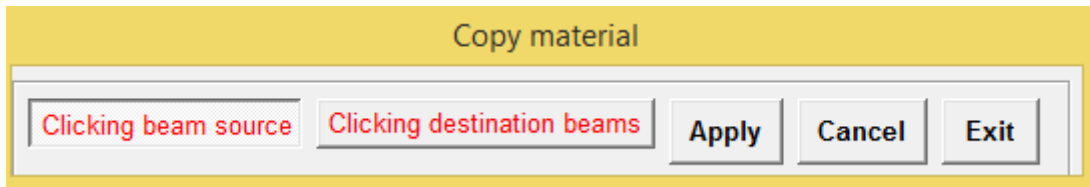
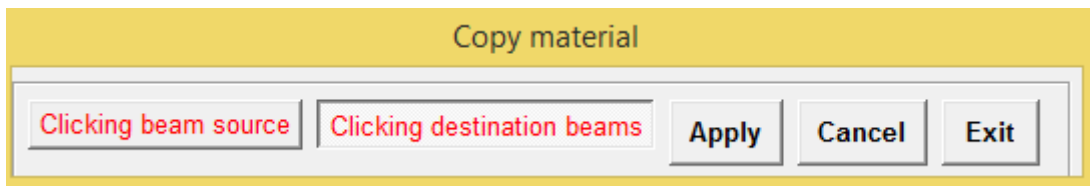

Figure 41
Figure 42
**Step 1:** Click button. Figure 41 will then appear. *(Note the button 'Clicking beam source' is currently in clicked mode which means that you are prompted to click the element to be copied).*
**Step 2:** Click the element with the section properties to be copied. After clicking the source element, Figure 41 will turn into Figure 42. *(Note the now the button 'Clicking destination beams' is now in clicked mode, which means that the user is prompted to click the elements will will received the material to be copied)*